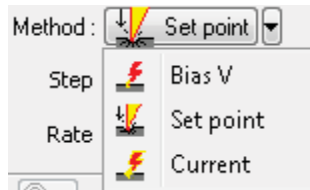

Fig. 13-26. Selecting the lithography method
5. For Force lithography, select **SetPoint** in the **Method** drop-down list (Fig. 13-26).